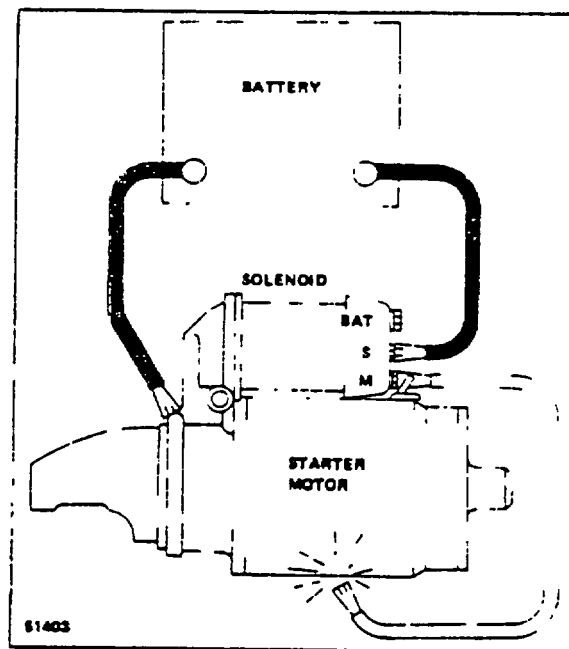

Figure 3-7. Circuit for Checking Pinion Clearance
2. Connect a battery, of the same voltage as solenoid, from the solenoid switch terminal to the solenoid frame (See Figure 3-7).